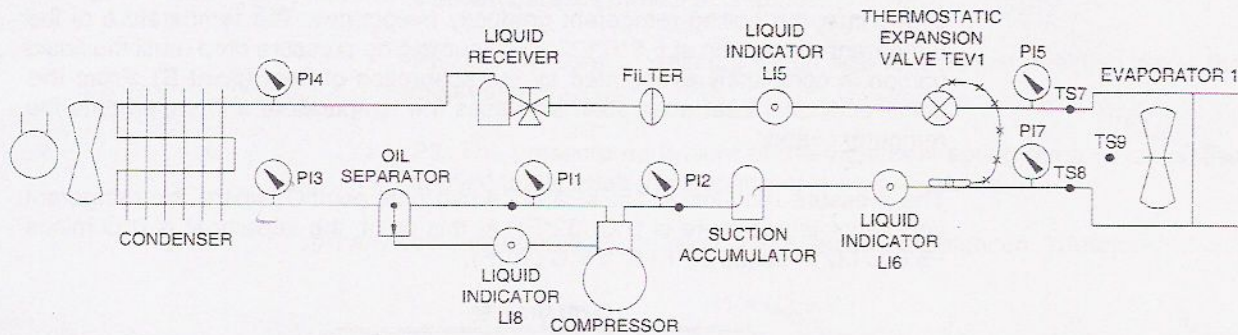

Figure 4-4. Refrigeration system with thermostatic expansion valve control.
The schematic diagram shown in Figure 4-4 is a typical refrigeration system using a thermostatic expansion valve as the metering device. Temperature and pressure sensing points are located on the schematic to indicate where measurements should be taken.
1. Open and close the manual valves to arrange the refrigeration system as shown in Figure 4-4. Figure A-1 in Appendix A may be used to assist in the proper set-up of the system.
All pressure and temperature test point locations are indicated on the diagrams in Figure 4-4 and Figure A-1.